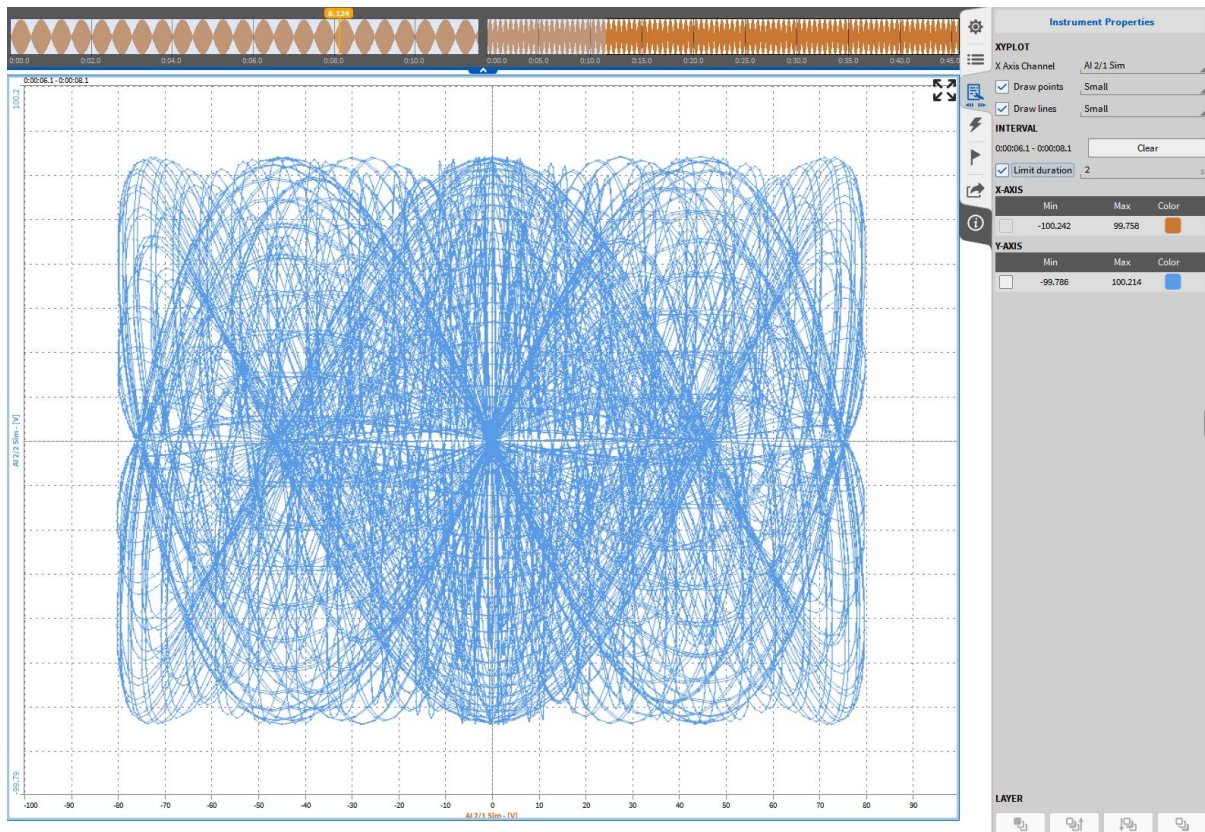

Fig. 8.86: XY-Plot - Data scrolling
- In the *PLAY* mode and *LIVE* mode (with frozen screen) the user can scroll through the measurement data by moving the orange time marker in the Overview bar (see Fig. 8.86) or in a Recorder if one is displayed. The Interval settings in the Instrument Properties are respected during this operation.